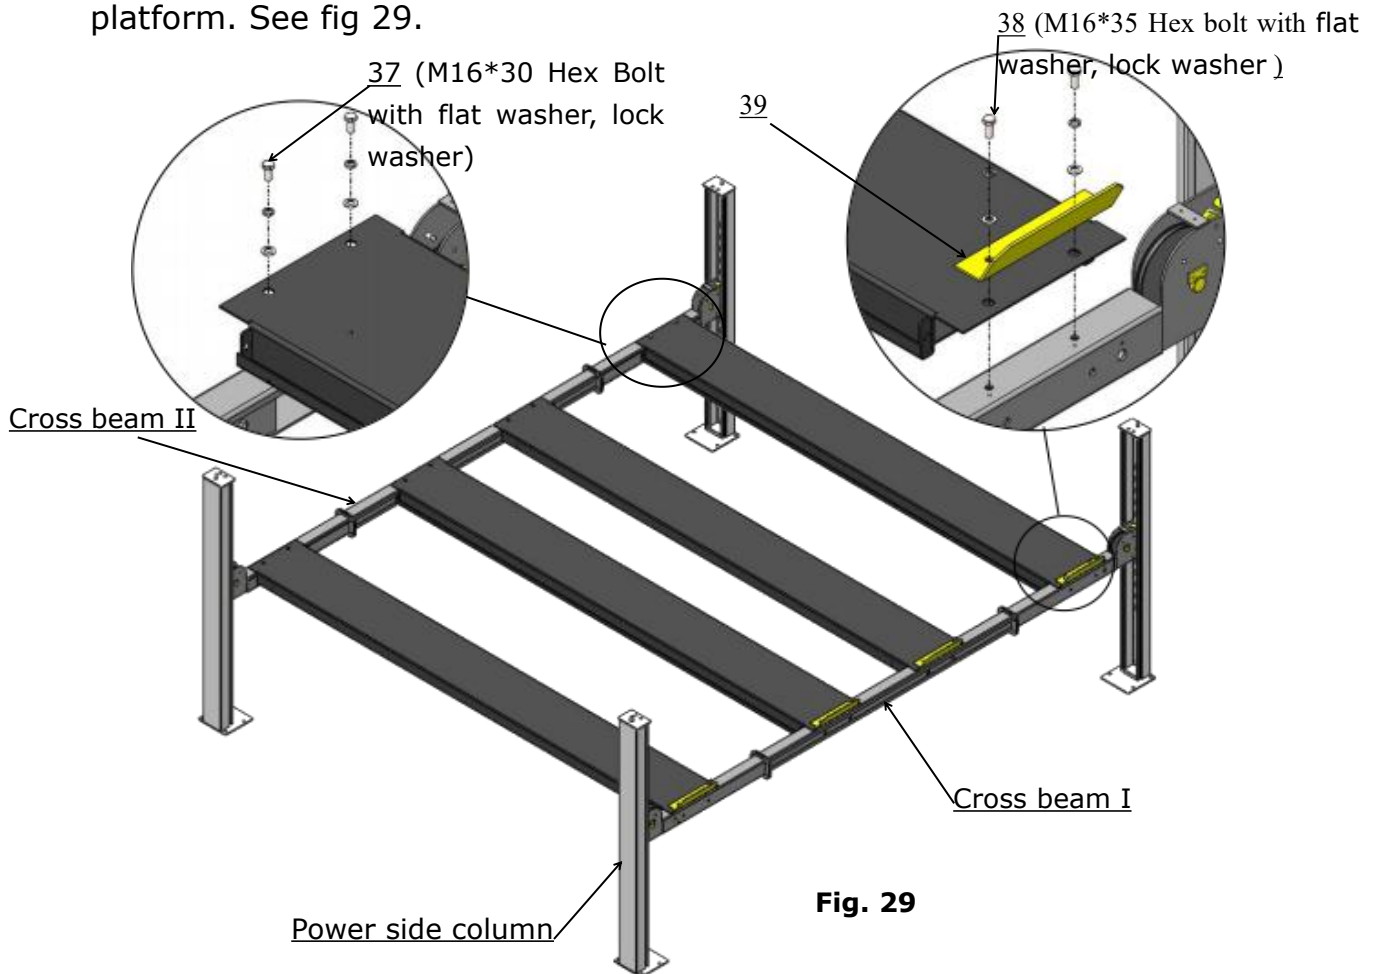

Fig. 29
2. Install platform connecting bolts, follow the same steps as power side platform. See fig 29.